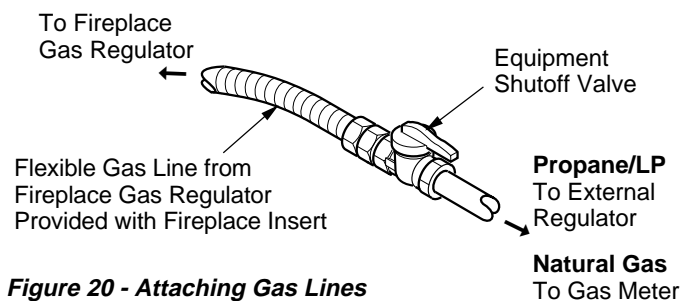

Figure 20 - Attaching Gas Lines
**NOTICE:** Most building codes do not permit concealed gas connections. A flexible gas line is provided to allow connection with the fireplace (see Figure 20). The flexible gas supply line connection to the equipment shutoff valve should be accessible.
- Connect gas supply line to flexible gas line attached to gas regulator of fireplace insert (see Figure 20). Use sealant on all male pipe threads.